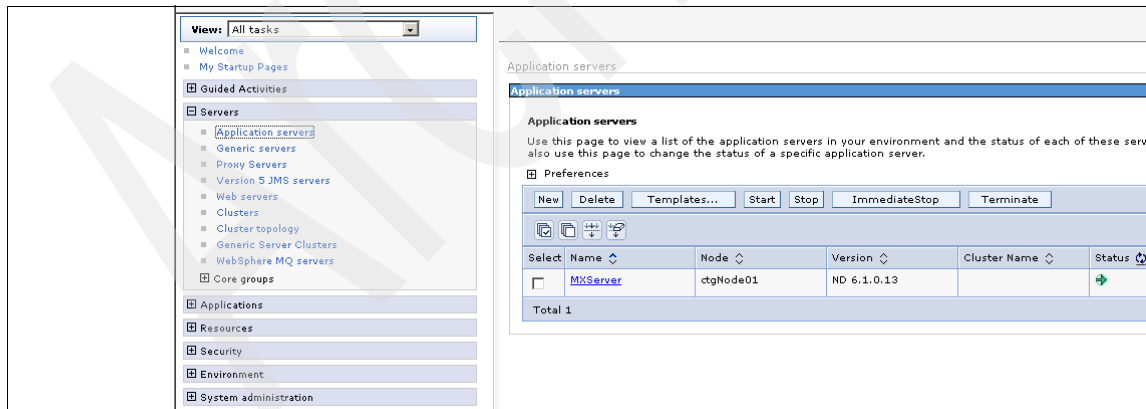

Figure A-10 MXServer
11. Identify the HTTP Transfer Port Numbers; select **Expand Servers** → **Application servers**, and click **MXServer** from the main window (see Figure A-10).